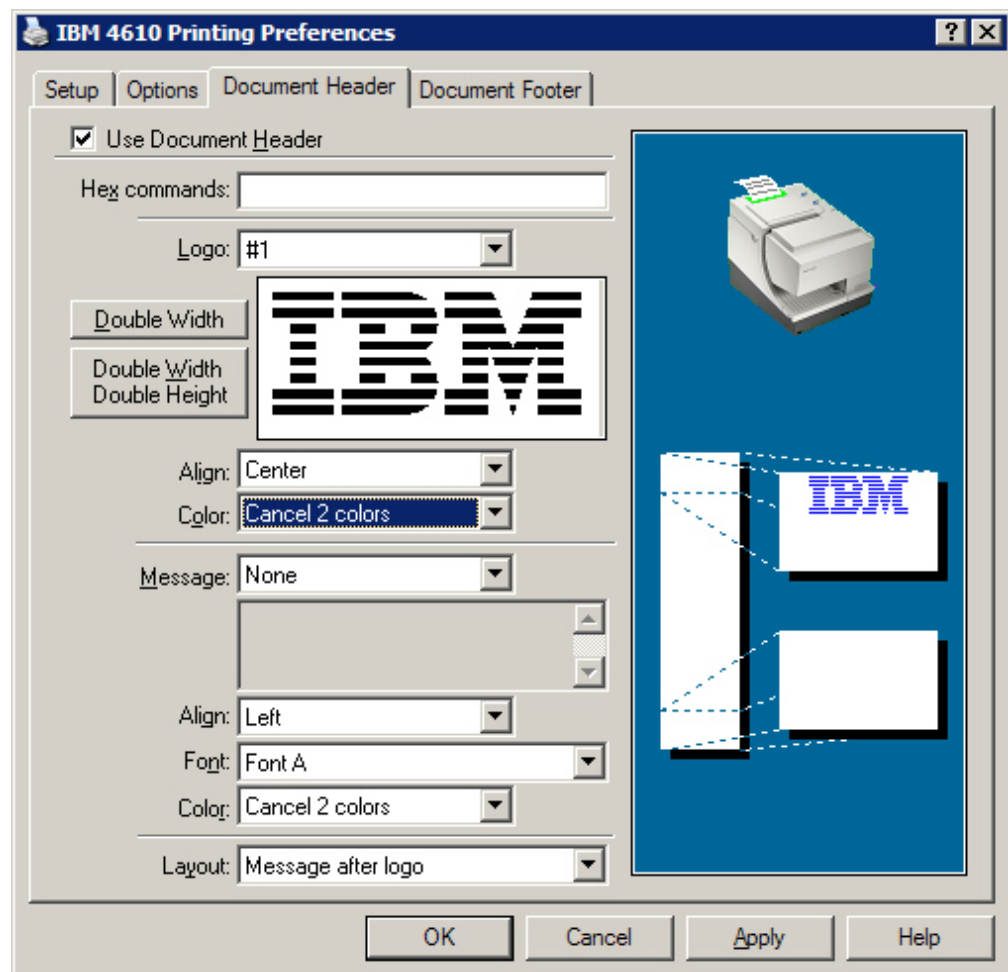

Figure 22. Selecting a header logo
6. To specify a logo (see Figure 22):